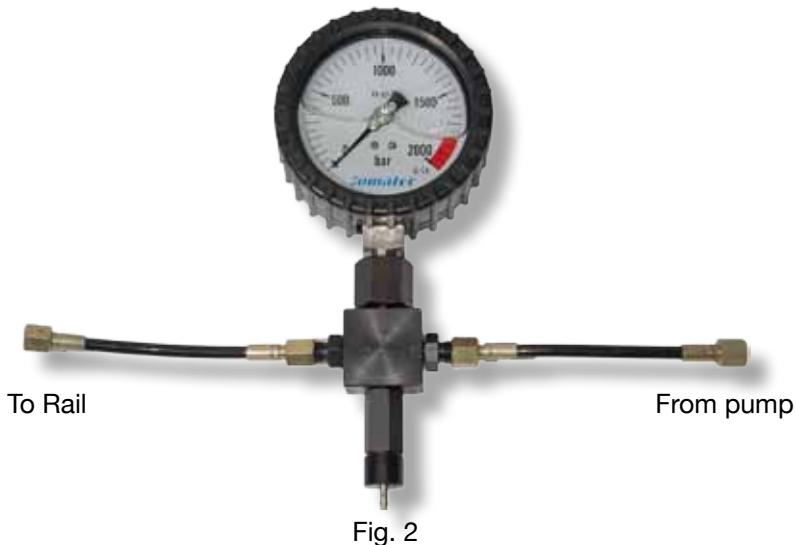

Fig. 2
- Ensure they are free of dirt to prevent particles entering the injection system and mount these hoses in the "T" gauge, so that we get a set like Fig. 2